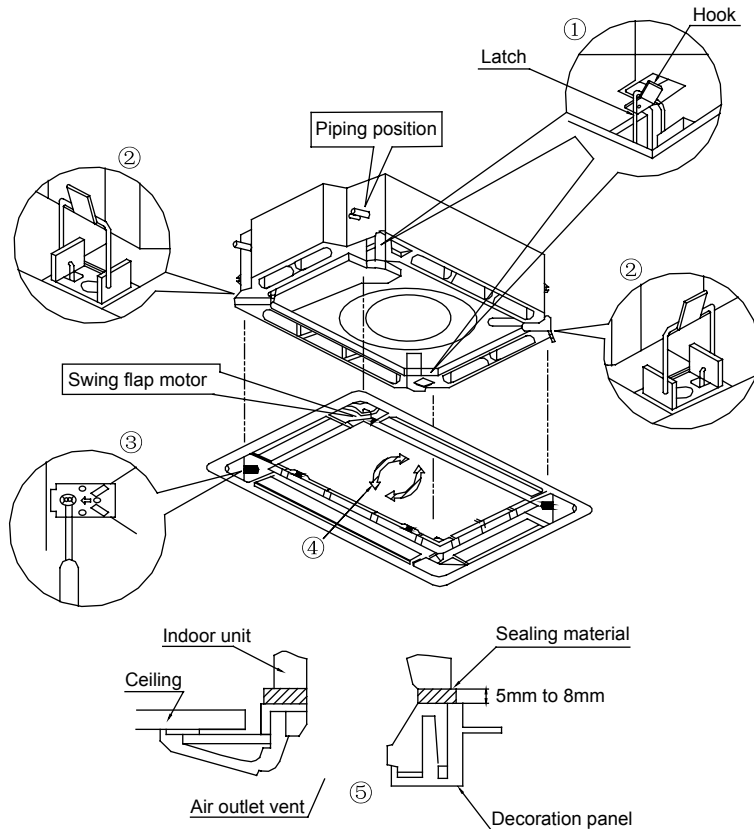

Fig. 13
1. Set the panel to the indoor unit body by matching the position of the swing flap motor of the panel to the piping position of the panel to the piping position of the indoor unit as shown by Fig. 13.
- (1). Install the panel on the indoor unit temporarily. Hang the latch on the hook that is located on the opposite side of the swing flap on the panel of the indoor unit. (2 positions)
- (2). Hang the remaining 2 latches to the hooks on the sides of the indoor unit. (Be careful not to let the swing motor lead wire get caught in the sealing material.)
- (3). Screw the 4 hexagon head screws under the latches in about 15mm (1/2 in). (The panel will rise)
- (4). Adjust the panel by turning it toward the direction pointed by the arrow as shown in Fig. 13, so that the adjust board connect the ceiling well.
- (5). Tighten the screws until the thickness of the sealing material between panel and indoor unit reduced to 5-8mm (1/4-1/8 in).